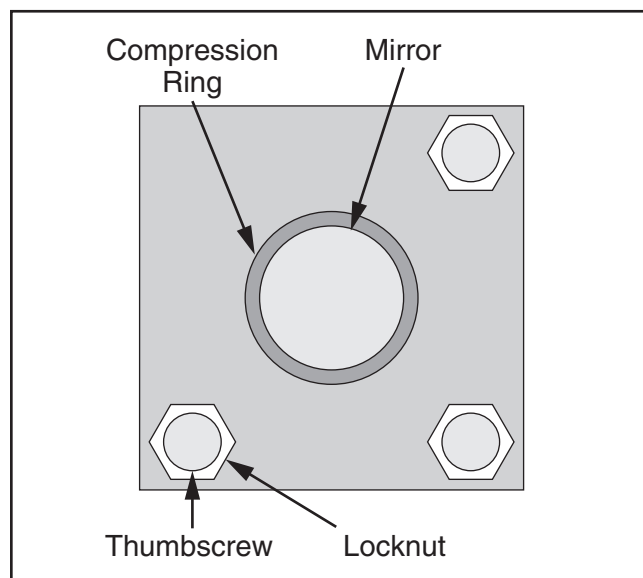

Figure 98. Typical mirror assembly.
16. Loosen lock nuts on (3) brass thumbscrews located behind Mirror #1 (see **Figure 98**).
23. Loosen lock nuts on (3) brass thumbscrews located behind Mirror #1 assembly (see **Figure 98** on **Page 58**).